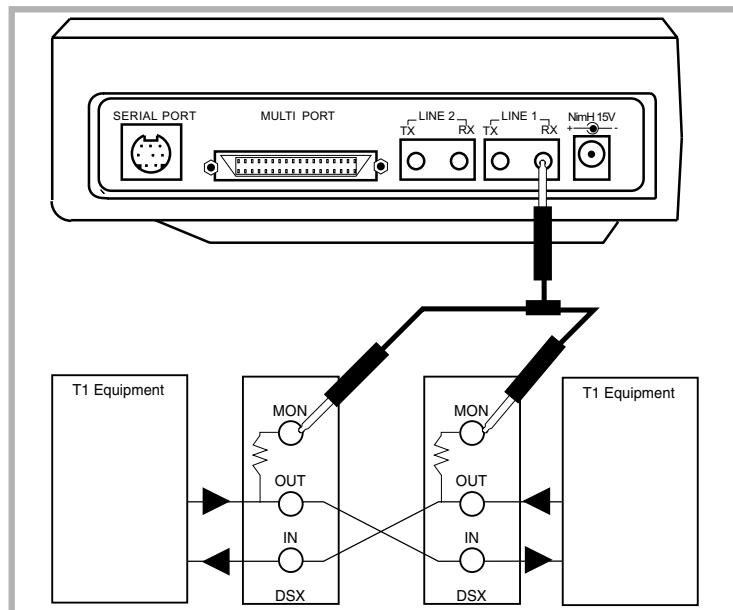

Figure 179 Monitoring an In-Service Voice Frequency Channel
This procedure is for monitoring a voice frequency channel within a T1 circuit. Figure 179 illustrates the setup.
2. Connect the SunSet T10 to the circuit as shown in Figure 179. Press the HISTORY key on the keypad to clear the blinking LEDs.